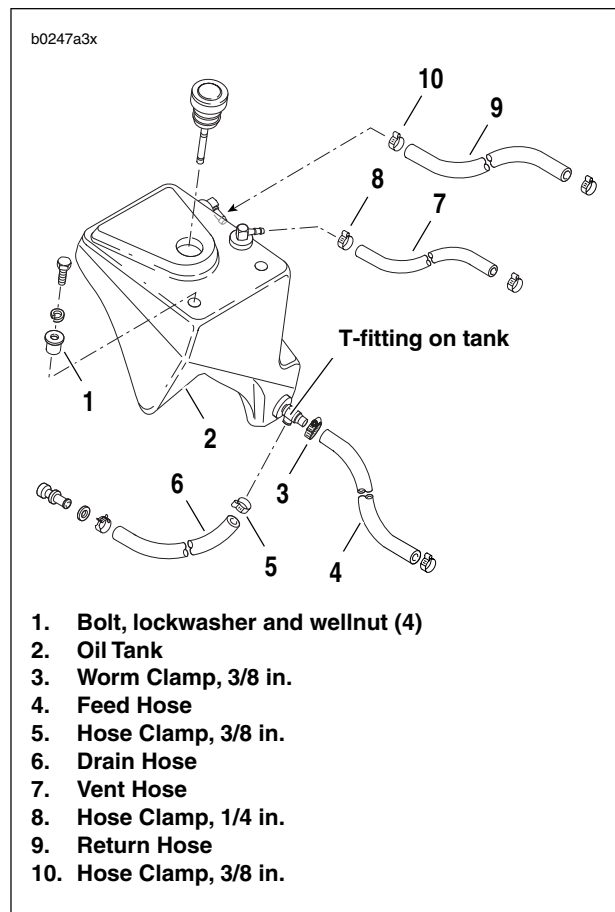

Figure 3-50. Oil Tank
4. See Figure 3-50. Remove clamps to detach hoses from oil tank. Label each hose upon removal.
- a. Remove feed hose worm clamp (3) from T-fitting.
- b. Remove 3/8 in. drain hose clamp (5) from T-fitting.
- c. Remove 1/4 in. clamp (8) from vent hose (7).
- d. Remove 3/8 in. clamp (10) from return hose (9).
5. Remove four bolts and lockwashers from well nuts (1).
1. See Figure 3-50. Place oil tank on frame and align mounts. Loosely install bolts and lockwashers (1) at all four mounting points.